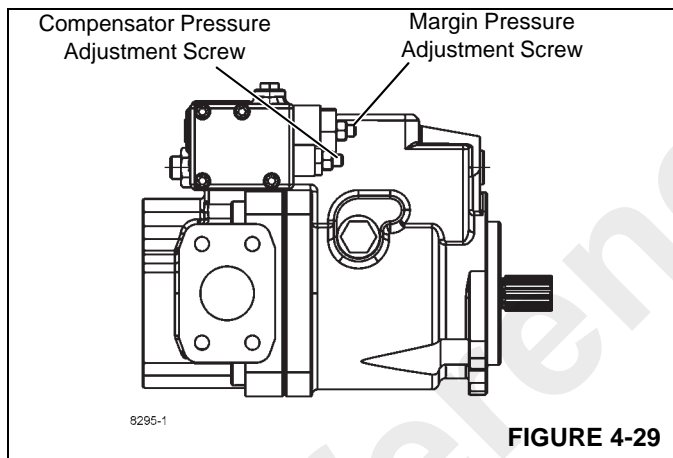

FIGURE 4-29
2. Remove the cap nut from the margin adjusting screw on the pump pressure compensator. See Figure 4-29. Loosen the jam nut
2. Remove the cap from the margin pressure adjustment screw (Figure 4-29). Loosen the jam nut and turn the adjustment screw all the way in (clockwise) until it will not turn any more.
3. Remove the cap nut from the pressure compensator adjustment screw (Figure 4-29). Loosen the lock nut.